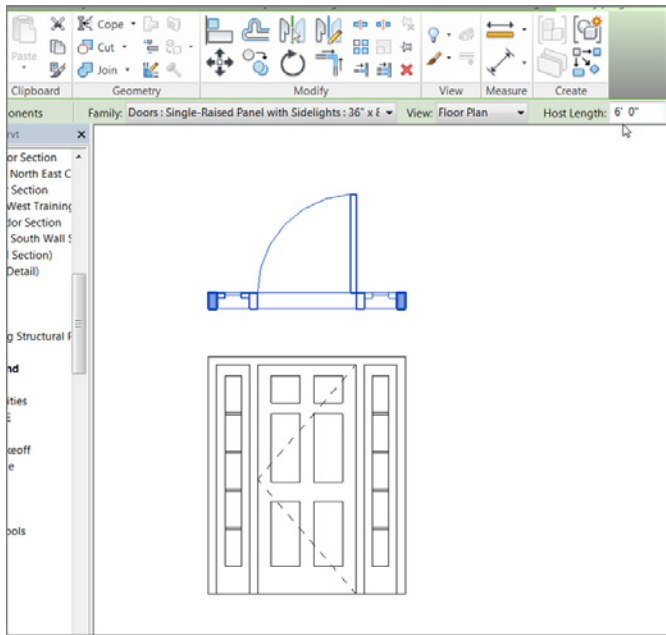

FIGURE 11.43: Placing two instances of the same door for the legend
7. Change the view to Floor Plan. Place another instance of the door just above the elevation, as shown in Figure 11.43. Revit provides a snap line on the left side for alignment.
8. In the Options bar, be sure Host Length is set to 6'-0" (1800mm) (see Figure 11.43).